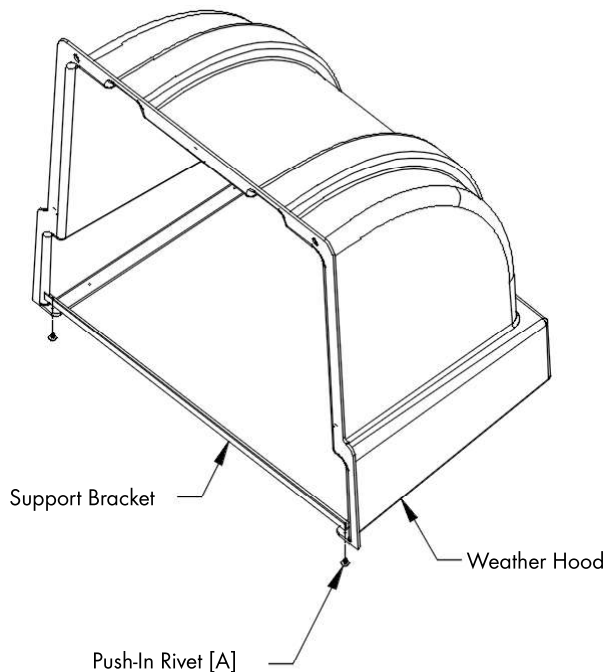

Figure 3
Find the Support Bracket and insert into the lower rear of the Weather Hood and line up the holes in the Support Bracket with the outer most holes in the bottom flange of the Weather Hood. Using (2) Push-In Rivets [A] fasten Support Bracket to Weather Hood. *See Figure 3.*